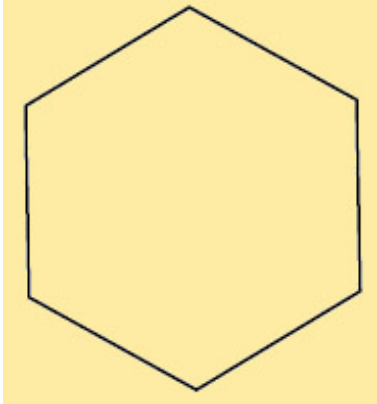
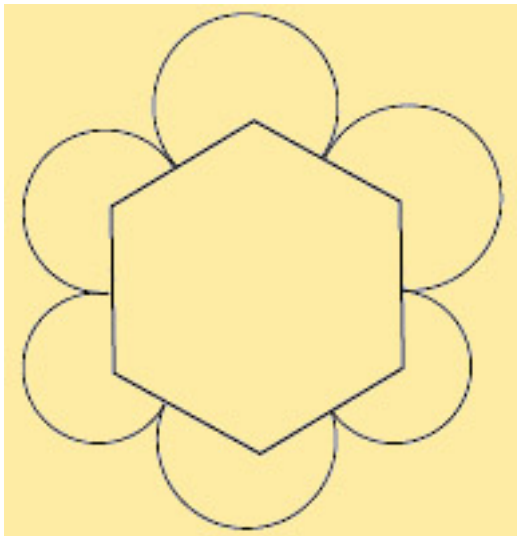

Figure 15: Equilibrium shape
Figure 22: Simplest Wulff plot for the given equilibrium shape.
2. Given the following equilibrium shapes (Figures. 15, 16, and, 17) draw the simplest Wulff plots that would give rise to such equilibrium shapes.
2. the simplest Wulff plots (Figures. 22, 23, and, 24) that would give rise to equilibrium shapes shown in Figures. 15, 16, and, 17).